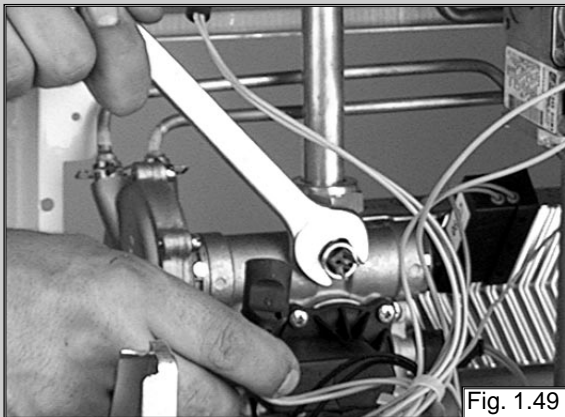

Fig. 1.49
1. Remove the electrical connector by pulling off the thermostat connections and unscrewing the sensor probe with a 14 mm open ended spanner (see fig. 1.49).